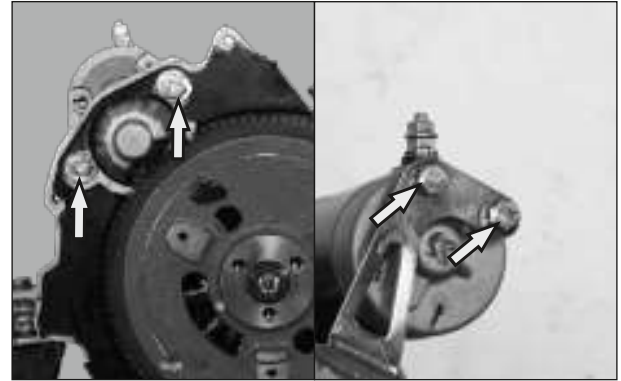

Fig. 3.167
- Insert the starter motor on the crank case LH. (Fig. 3.167)
- Tighten the 2 nos. Hexagonal bolt (M8x50). (Fig. 3.167)
- Assemble and tighten the bracket mounting starter motor using 2 nos. Hexagonal bolt (M6x16) along with 2 nos. Spring washer. (Fig. 3.167)